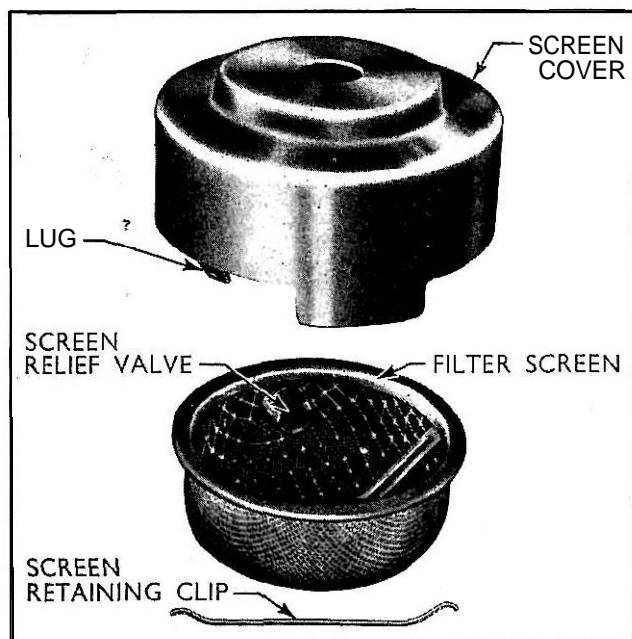

Fig. 19
- 2 Remove the spring clip from the screen cover and lift out the screen. (See Fig. 19.)